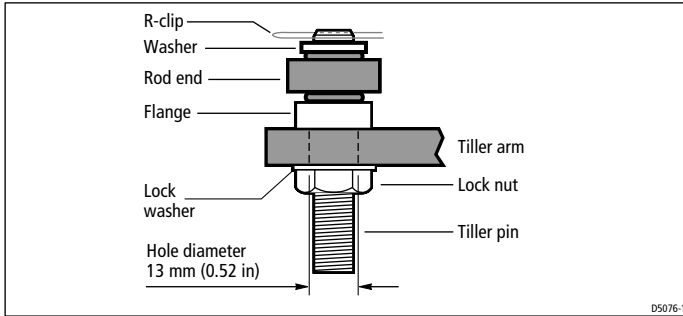

Figure 6: Attaching the push rod to the tiller arm
- tiller pin assembly (see *Figure 6*) consisting of: tiller pin, R-clip, top washer, lock washer, nut ($\frac{1}{2}$ inch UNC nylock)
- insert the tiller pin through the tiller arm hole, so the flange remains above the arm (see *Figure 6*)
- secure with the supplied washer and R-clip (see *Figure 6*)